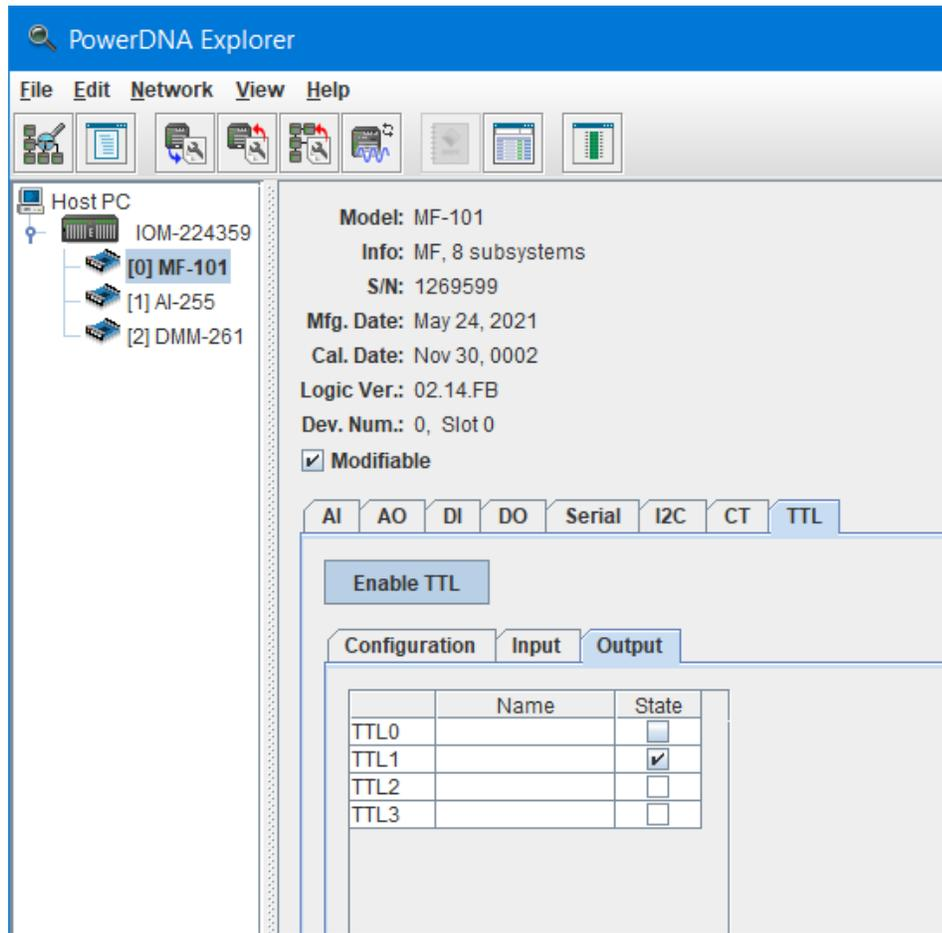

Figure 5-25 PowerDNA Explorer TTL Tab, Output Subtab
5.6.10.3 Write TTL Data The TTL Output subtab (Figure 5-25) contains the following columns: